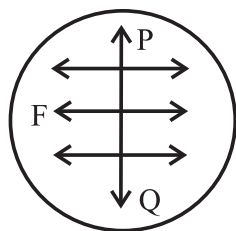

Fig. 2.16: Force of surface tension.
**a) Surface Tension:** As seen previously, the free surface of a liquid in a container acts as a stretched membrane and all molecules on the surface film experience a stretching force. Imagine a line PQ of length  $L$  drawn tangential to the free surface of the liquid, as shown in Fig. 2.16.